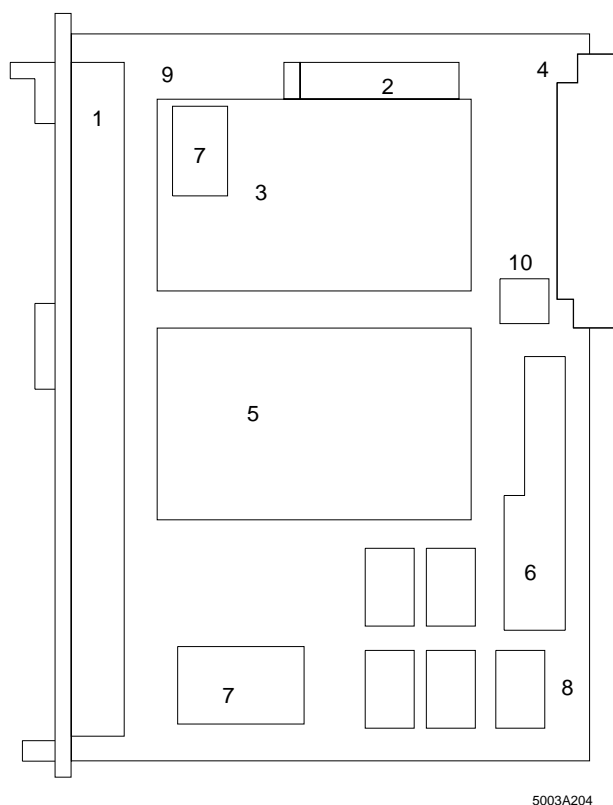

Figure 2-4: DCB with system connector
A standard EEPROM memory card stores the non-volatile configuration data (e.g. logical addressing). On the host controller board the memory card is located below the mounting location 1 (see Figure 2-4 (3)). The memory card sits in a holding support with an ejection mechanism and can only be replaced when the board is not plugged in.